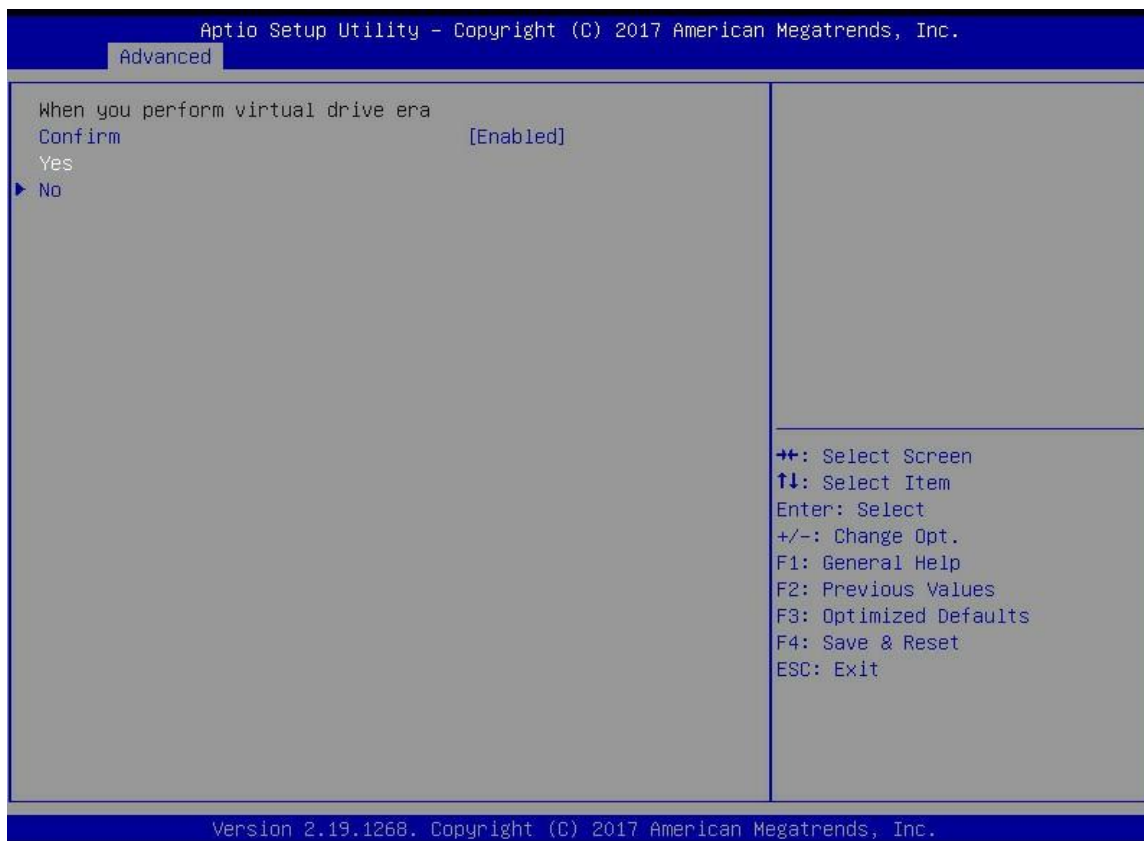

Figure 6-66
- f) Enter the interface shown in figure 6-66, select confirm to enable it, select Yes, and press enter.